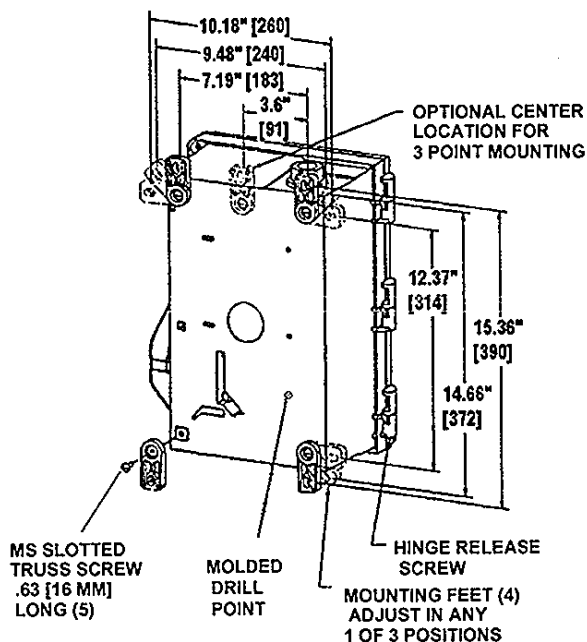

FIG. M1
3. Mount the feet to the enclosure in the desired position using the screws provided. (see Fig. M1 for mounting dimension). Torque 10 to 12 lb.-in. (1.2-1.4 Nm).
5. Turn the three (3) door fastening screws ¼ turn counterclockwise to open door.